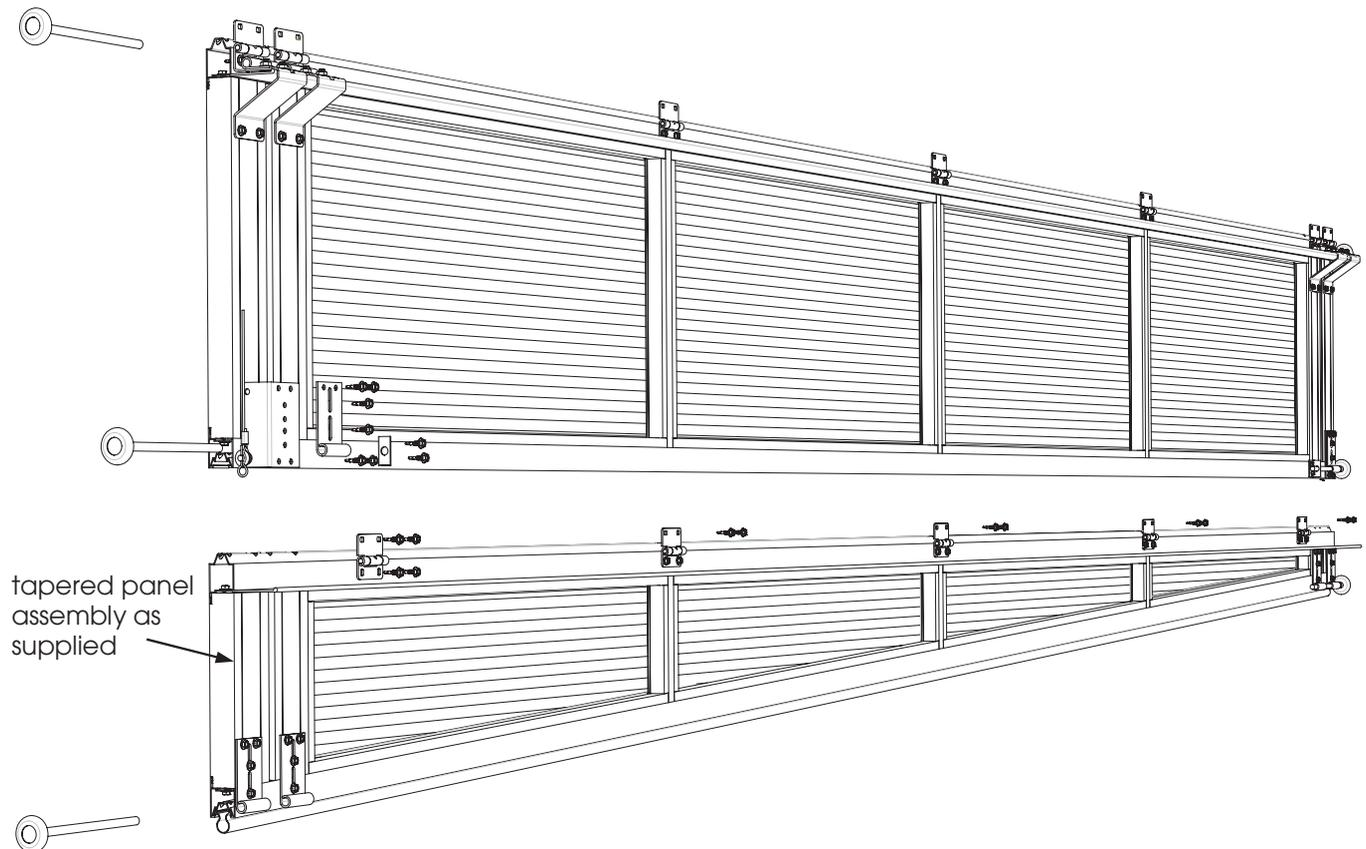

Fig: 5.4.1
- a) Assemble the bottom panel taking note that there are no wheels or weather strip on the bottom panel, these are both on the taper panel. Fig 5.4.1.